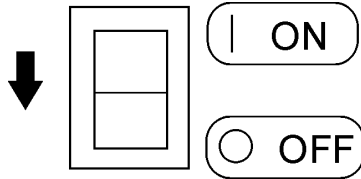
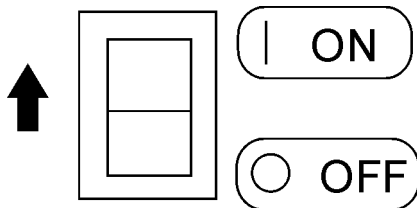

Figure 16. Idle Control Switch (Off)
Figure 17. Idle Control Switch (On)
- Place the **idle control switch** (Figure 16) in the "OFF" (down) position. This will allow the engine speed to run at speed about 3600 RPM's
NOTE Placing the **idle control switch** in the **OFF** position (Figure 16) allows the engine to operate at a maximum speed of about 3600 RPM's. When the idle control switch is placed in the up position (**ON**) (Figure 17), the generator will run at idle speed (2200 RPM's) until a load is applied, at that time the engine speed will increase to 3600 RPM's as long as the load is being applied. When the load is not in use, the engine speed will drop back to the idle mode after about 3 seconds.